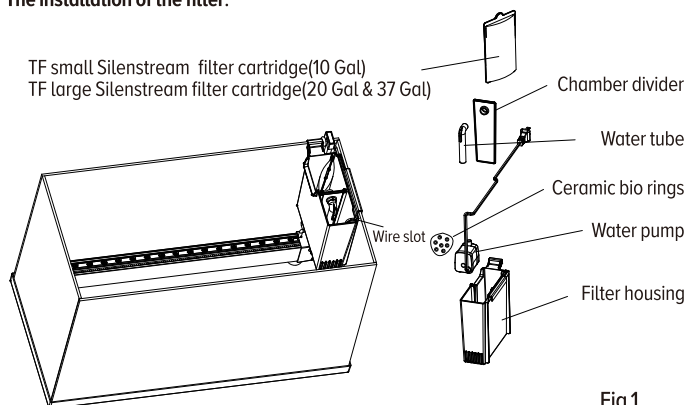

Fig.1
1. Assemble the divider, water tube and water pump as shown in Fig.1.
5. Refer to Fig. 1 to install the filter.